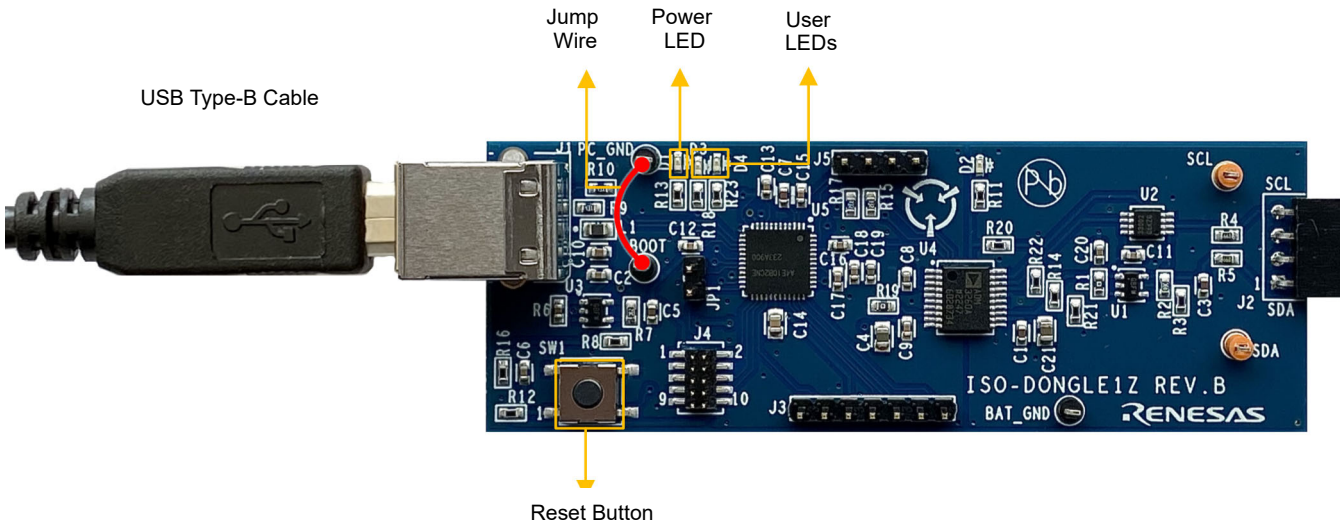

Figure 10. Connection of the ISO-DONGLE1Z Rev.B Isolated Communications Dongle for Software Image Update
1. Connect the BOOT Test Point to the PC_GND Test Point using a jumper wire as demonstrated on Figure 10.